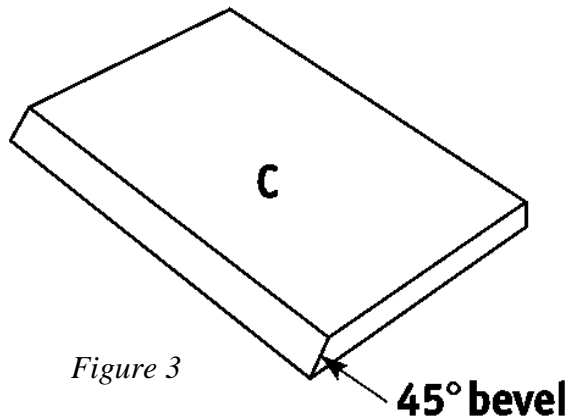

Figure 3
1. Cut two Roofs (C) from 1 x 8 pine, each measuring 10-1/2 inches.
2. Bevel one 10-1/2" edge of one Roof (C) at a 45-degree angle, as shown in *Figure 3*.
3. Repeat Step 2 to bevel one edge of the remaining Roof (C).
4. Apply glue to the beveled edges, and place the two Roofs (C), beveled edges together, on top of the base assembly, and nail them together. Nail through each of the Roofs (C), into the beveled edge of the other Roof (C) using four 1-1/2" finishing nails on each side. Do not nail into the base structure yet, as the roof will have to be removed to wire the lamp.